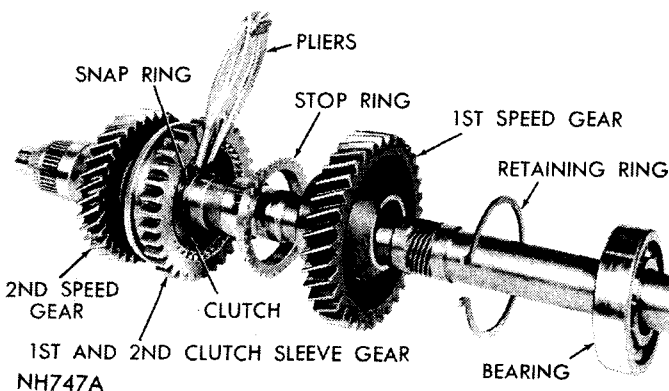
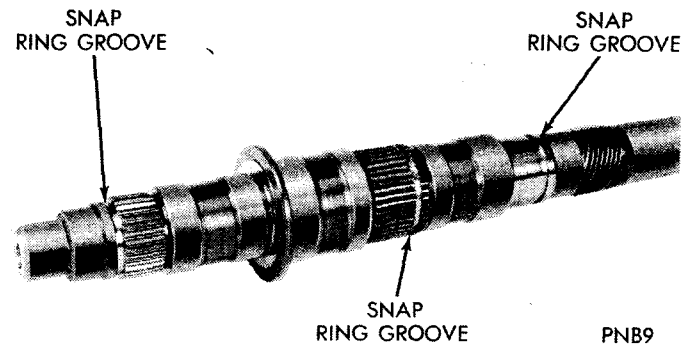
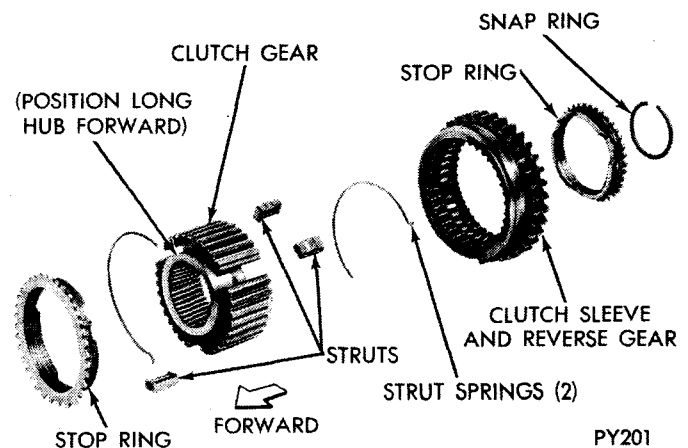

Fig. 20—Removing or Installing Clutch Gear Snap Ring
Fig. 21—Mainshaft Bearing Surfaces
Fig. 31—1st-2nd Synchronizer—Disassembled
(17) Remove bearing, bearing retainer ring, 1st speed gear, and first speed stop ring from the shaft.
(18) Remove snap ring that retains 1st and 2nd clutch gear and sleeve assembly to mainshaft (Fig. 20).
(19) Slide 1st and 2nd clutch gear and sleeve assembly from mainshaft. (Do not separate synchronizer parts unless inspection reveals a replacement part is required.) Remove 2nd speed gear.
(20) Figure 21 shows various mainshaft bearing surfaces for the gears. Inspect these surfaces for signs
(1) Subassemble the synchronizer parts in the order shown in (Figs. 31 and 32) as follows: Place a stop ring flat on the bench followed by the clutch gear and sleeve. Drop the struts in their slots and snap in a strut spring placing the tang inside one strut. Turn the assembly over on the stop ring and install second strut spring tang in a different strut.
(2) Slide second speed gear over mainshaft (synchronizer cone toward rear) and down against shoulder on shaft (Fig. 20).
(3) Slide 1st-2nd synchronizer assembly (including stop ring with lugs indexed in hub slots, (Fig. 31) over mainshaft, down against second gear cone and secure with a new snap ring (Fig. 20). Slide next stop ring over shaft and index lugs into clutch hub slots.
(4) Slide first speed gear (synchronizer cone toward clutch sleeve gear just installed) over mainshaft into position against clutch sleeve gear.
(5) Install mainshaft bearing retaining ring, followed by mainshaft rear bearing. Using an arbor and a suitable tool, drive or press bearing down into position. Install a new snap ring on shaft to secure bearing